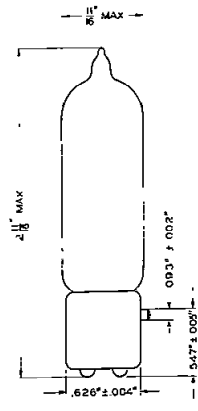

FIG. 1
**Dimensions**—Dimensions, outline diagrams of the tube and base, and the arrangement of the electrode connections to the base terminals are shown in Figures 1 and 2.
**Dimensions**—Outline diagrams showing dimensions of the tube and base, and the arrangement of the electrode connections to the base terminals are given in Figures 1 and 2.